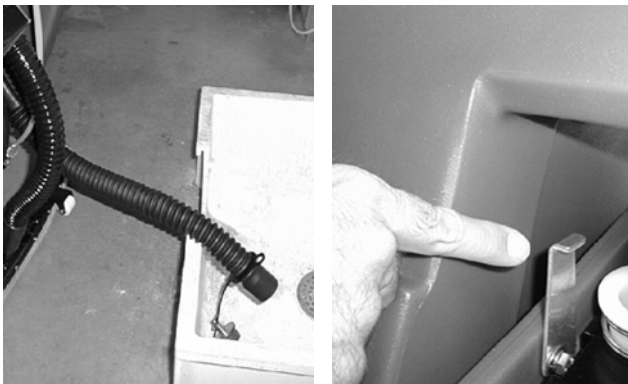

FIG. 14
1. Remove the recovery tank drain hose cap by turning it counter-clockwise and drain the tank. To completely drain recovery tank, hinge open tank and flip up tank support stand to rest the tank on (Figure 14).